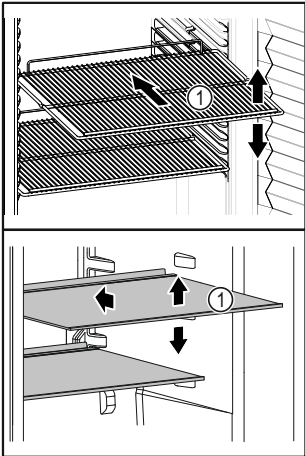

Fig. 60 Example illustration
- ❑ If storage surfaces *Fig. 60 (1)* are movable, adjust them according to height.